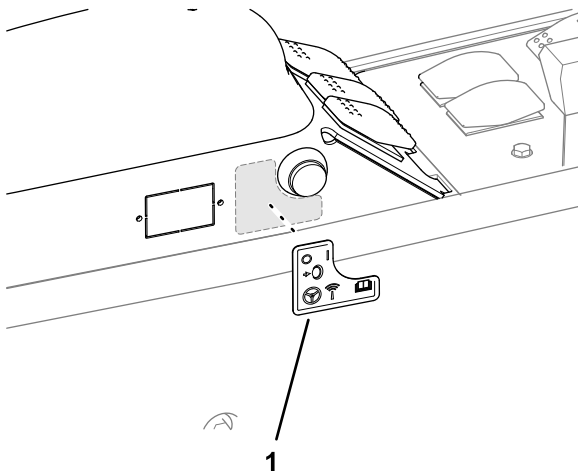

**Figure 102**
3. Assemble the side panel to the console frame (Figure 102) with 4 flange-head capscrews (1/4 x 3/4 inch).
4. Tilt the seat forward and install the lower rear flange-head capscrew (Figure 102).